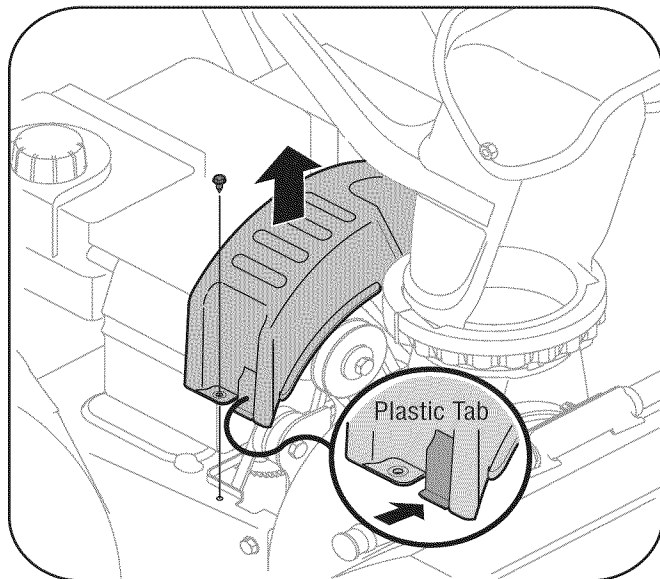

Figure 7-1
1. Remove the plastic belt cover on the front of the engine by removing the self-tapping screw and pressing the plastic tabs to release the belt cover. See Fig. 7-1 in the next section of this manual.
3. Remove the self-tapping screw shown in Fig. 7-1, and press the plastic tabs to release the belt cover. Pull the belt cover up and out from around the engine and chute assembly. Set it aside and save.